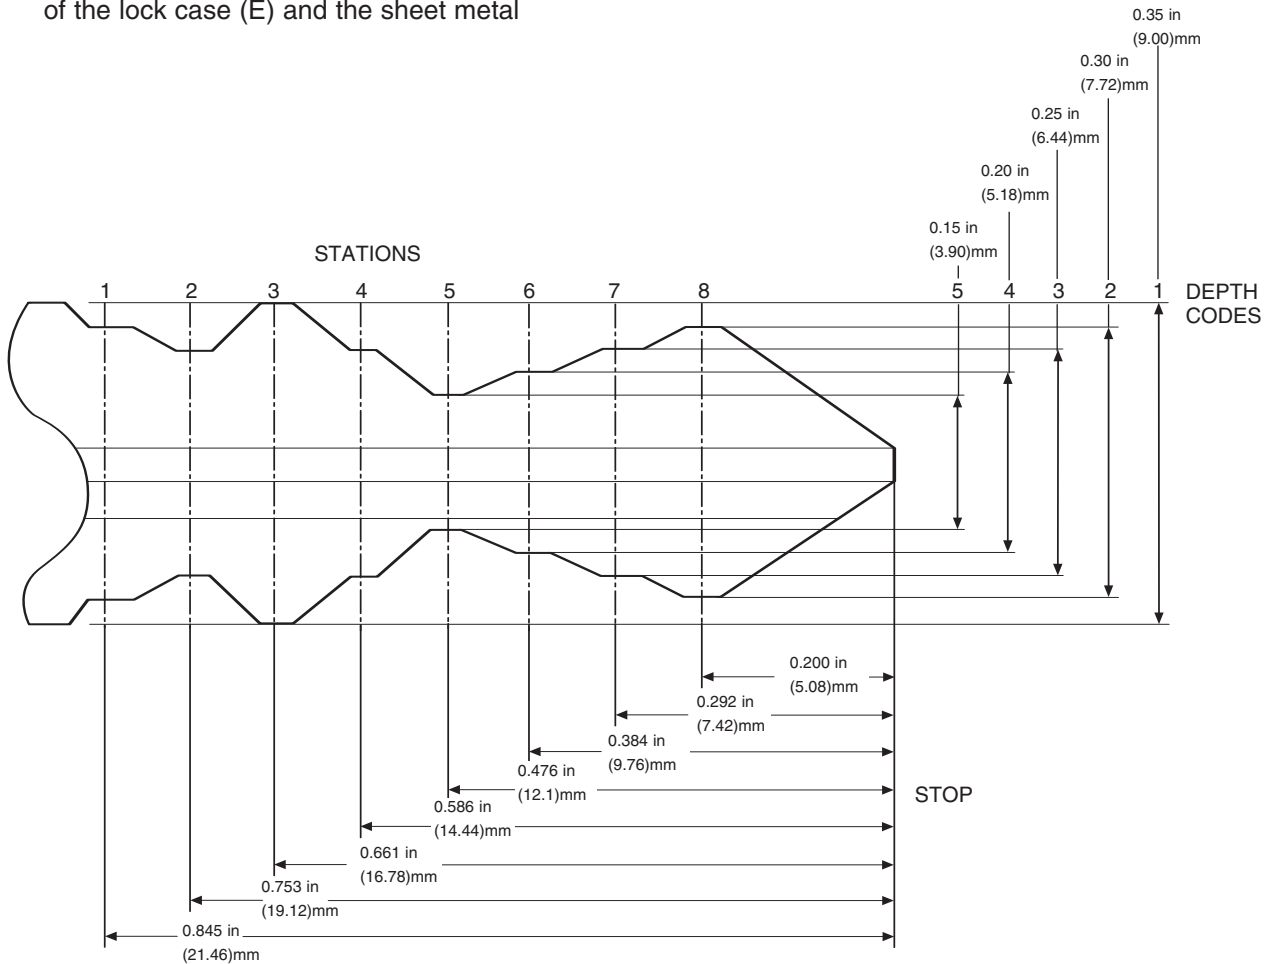

FIGURE 1
- 1c. Using the customer's key, measure the key cut depth at each key station (refer to Figure 1).